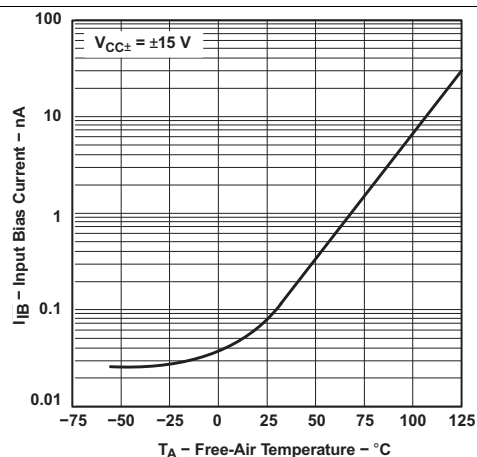

Figure 1. Input Bias Current vs Free-Air Temperature
- (1) All characteristics are measured under open-loop conditions with zero common-mode voltage, unless otherwise specified.
- (2) Full range is $T_A = 0^\circ\text{C}$ to 70°C for TL07_C, TL07_AC, TL07_BC and is $T_A = -40^\circ\text{C}$ to 85°C for TL07_I.
- (3) Input bias currents of an FET-input operational amplifier are normal junction reverse currents, which are temperature sensitive, as shown in Figure 1. Pulse techniques must be used that maintain the junction temperature as close to the ambient temperature as possible.
- Input bias currents of an FET-input operational amplifier are normal junction reverse currents, which are temperature sensitive, as shown in Figure 1. Pulse techniques must be used that will maintain the junction temperature as close to the ambient temperature as possible.